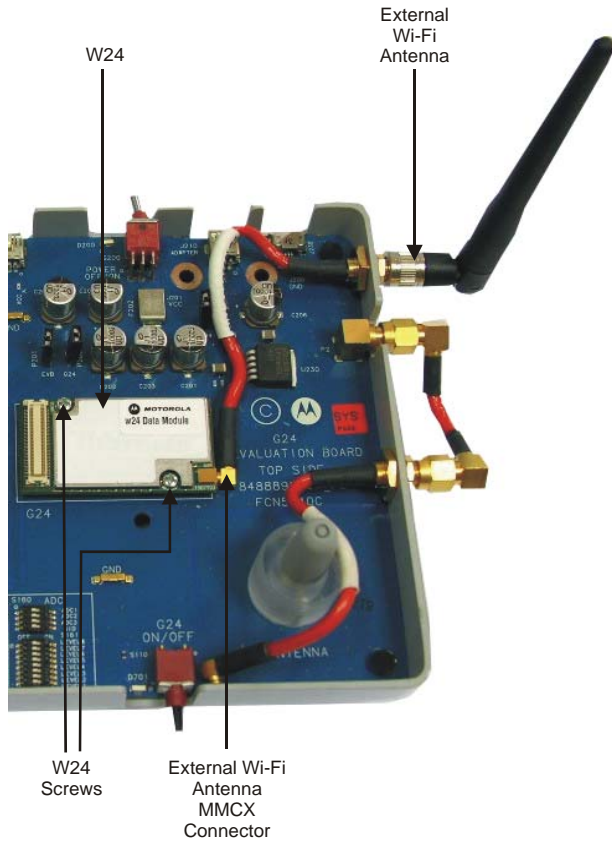

Figure 2-2: Connecting the W24 (Stand alone configuration)
1. Place the W24 (Figure 2-2) on the Developer Board area, marked by a white rectangle, and push the W24 70-pin connector down into the W24 70-pin connector on the Developer Board.
3. Connect the internal Wi-Fi RF cable MMCX connector to the MMCX connector of the W24 by pushing it in until it clicks (Figure 2-2).
4. Connect the external Wi-Fi RF antenna to Wi-Fi antenna connector (Figure 2-2).
5. Connect the internal Wi-Fi RF cable MMCX connector to the MMCX connector of the W24 by pushing it in until it clicks (Figure 2-2).
*The Developer's Kit arrives configured to operate with its on-board internal antenna. The **EXT ANT** and **INT ANT** connectors are connected together using an external RF cable, on the board's right side (Figure 2-2, on page 8).*